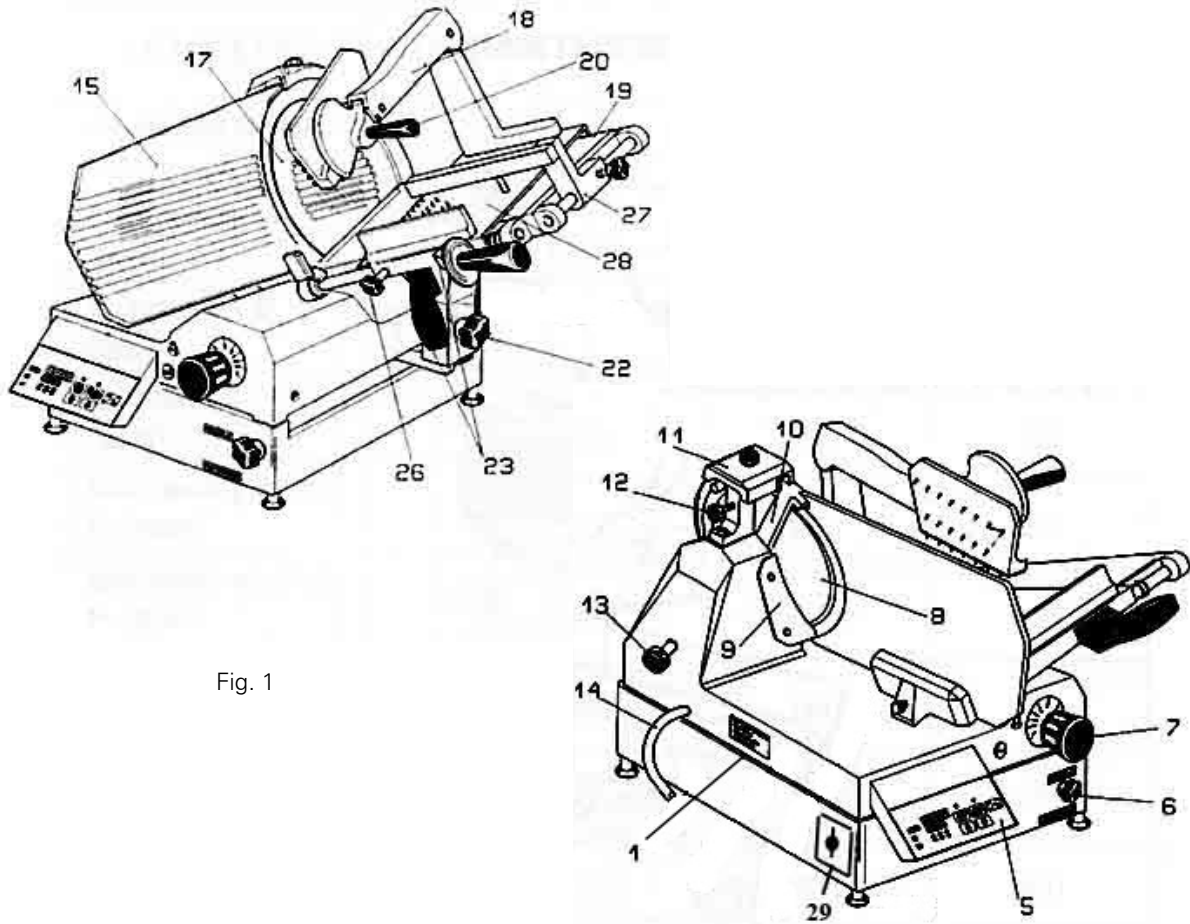

Fig. 1
1. turn the ON/OFF switch to "ON" (Fig. 1)